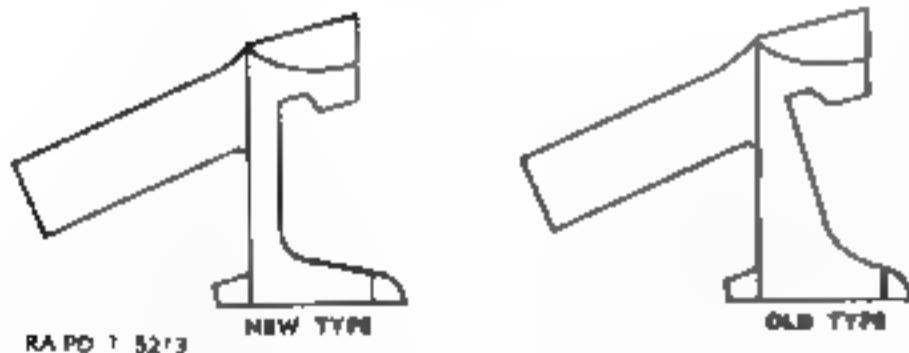

Figure 98. Recoil plate 5557150 - old and new type (both types usable).
- (1) Binding of moving parts with stock or lack of proper clearance for assembly is evident on the stock by rubbed areas. Relieve such binding points by filing or paring, using fine file or sharp, flat blade.
- (2) Relieve friction due to swelling caused by excessive moisture only enough to allow proper functioning and/or assembly, as wood may later dry out and shrink. Use of raw linseed oil will help to prevent undue swelling of wood due to excessive moisture.
- (3) Points to check for excessive friction or lack of sufficient clearance are —
- (a) Aperture in stock for trigger housing (Figs. 98 and 107). There must be a minimum of 0.010-inch clearance between stock and the rear of the trigger housing. Less than 0.010-inch clearance between stock and trigger housing causes the